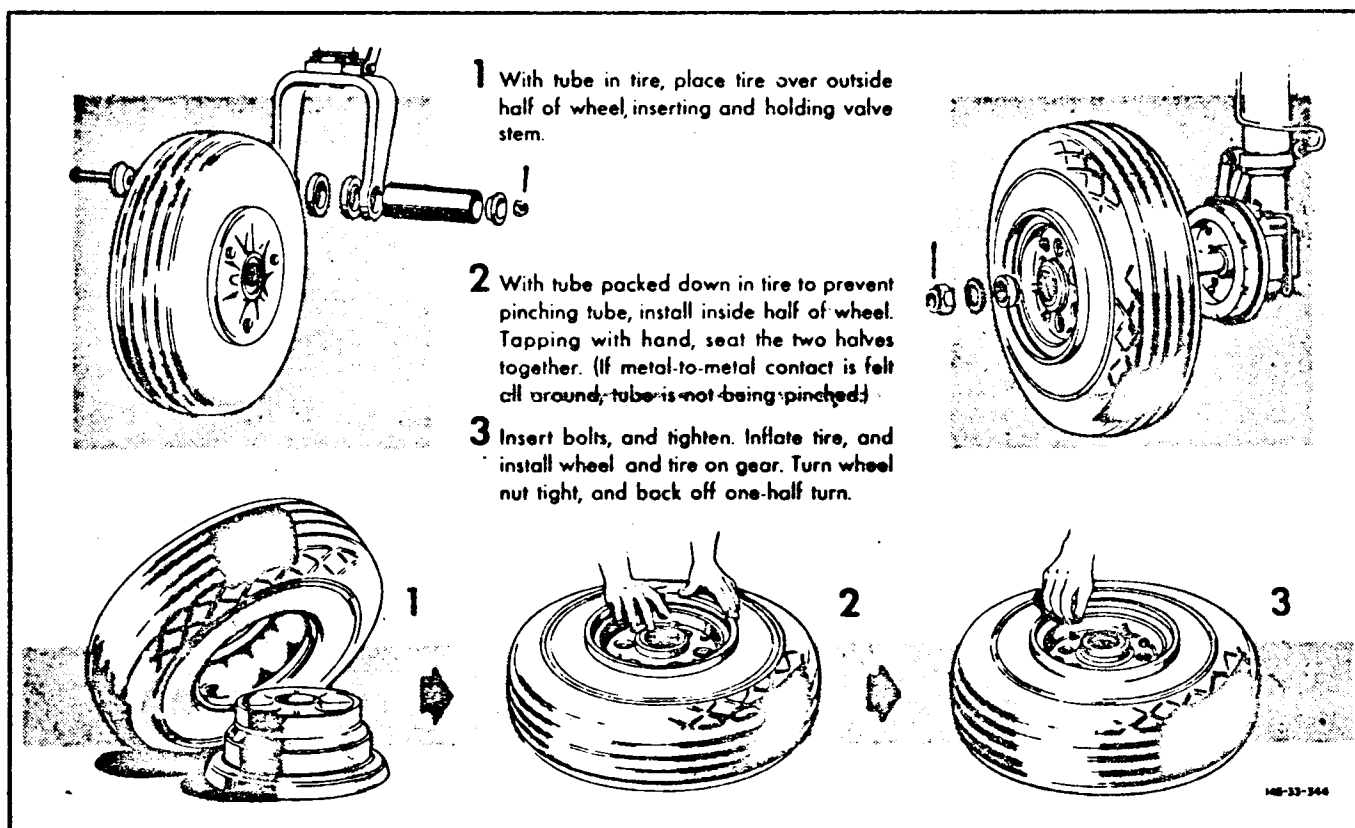

Figure 33 - INSTALLING AND REMOVING WHEELS AND TIRES
**Installing and Removing Wheels and Tires—See figure 33.**